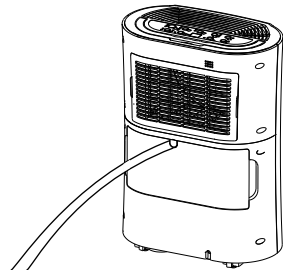

Fig. 6
4. Connect the draining hose (12) to the outlet neck (10) (Fig. 6).